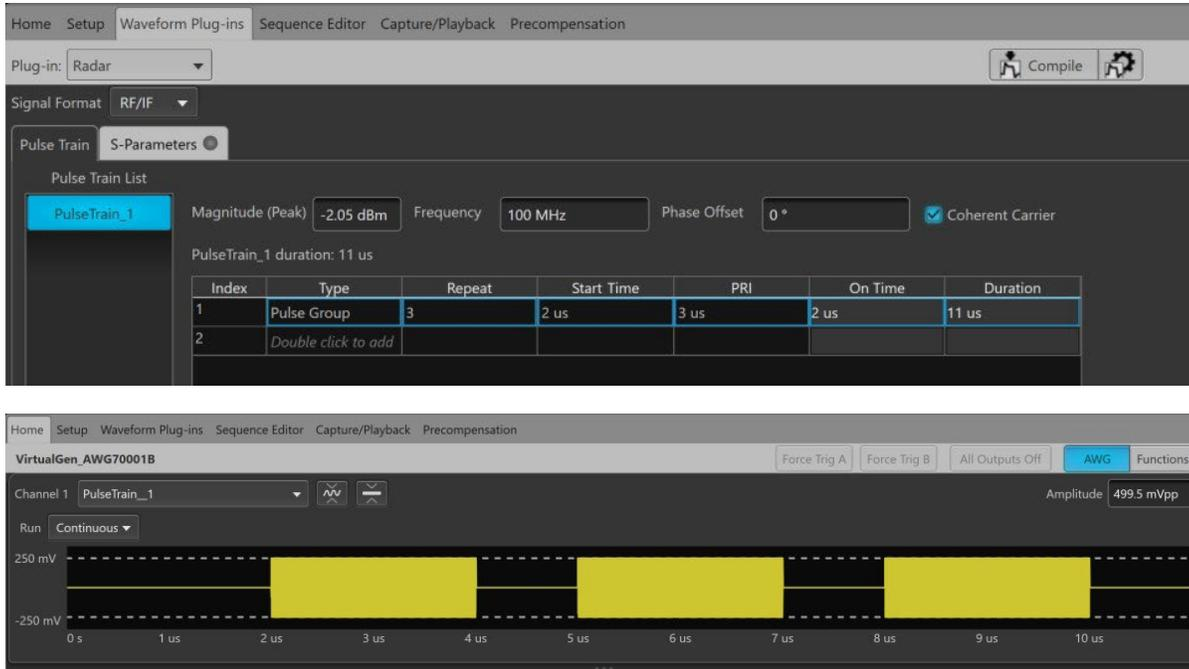

Figure 13: Pulse Group with 2 μ s start time inserted before 2 μ s wide pulse with 3 μ s PRI and a repeat count of three.
3. In that index (row in the table), set the Repeat count, Start Time, and PRI. The Start Time of a Pulse Group is dead time inserted only before the first pulse in the waveform as shown in Figure 13. You can also change the PRI or PRF using the Pulse Envelope tab settings at the bottom.